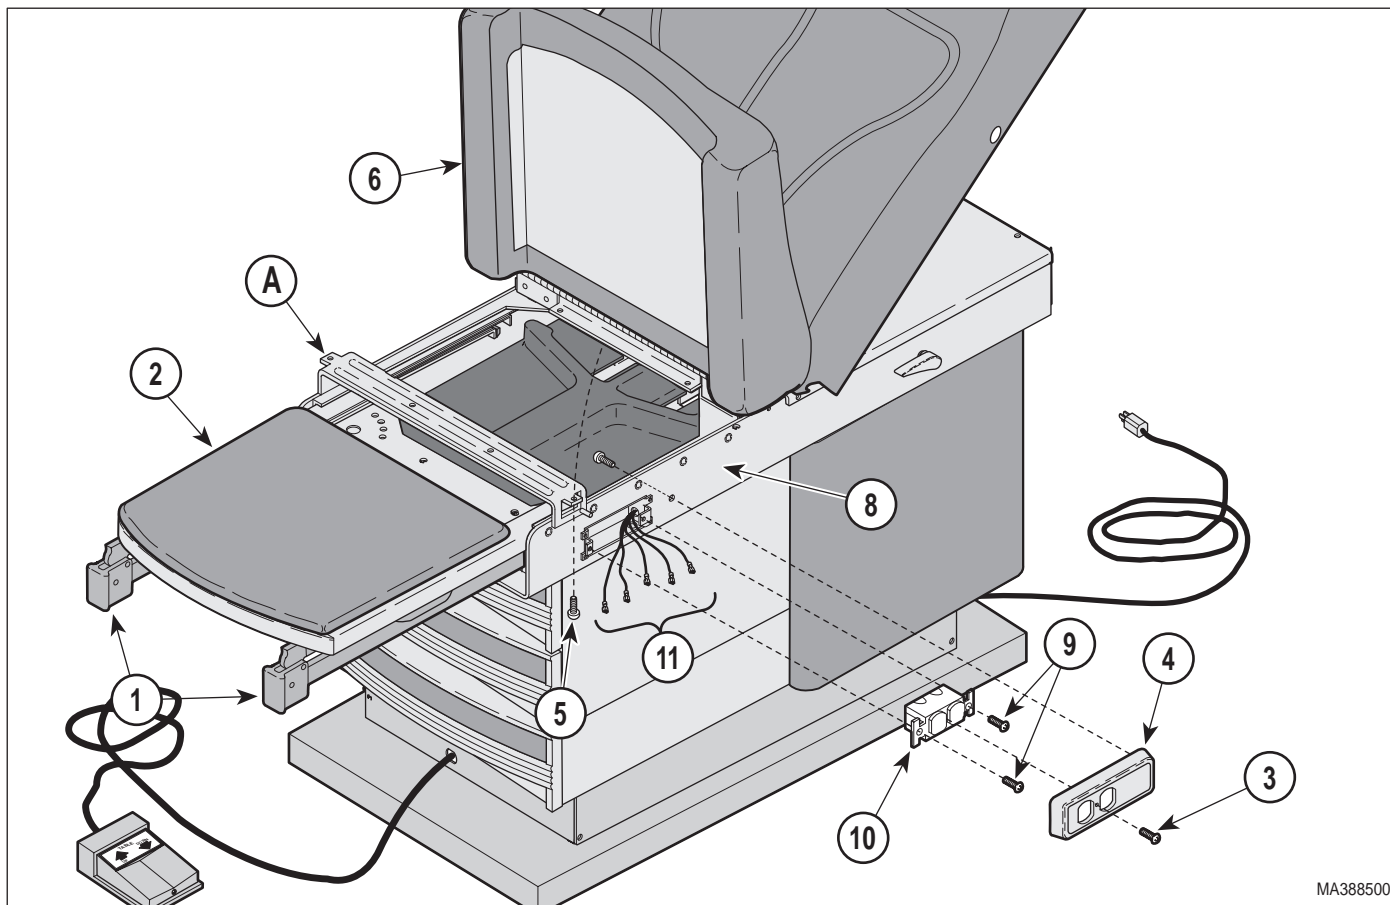

Figure 4-7. Electrical Receptacle Removal / Installation
- (1) Unplug table power cord from wall outlet.
- (2) Extend the stirrups (1, Figure 4-7) out to full extension.
- (3) Extend the footrest (2) out to full extension.
- (4) Remove the screw (3) from the front of the receptacle cover (4).
- (1) Connect the electrical leads (11, Figure 4-7) to the appropriate terminals on the duplex receptacle (10) (Refer to para 5.1).